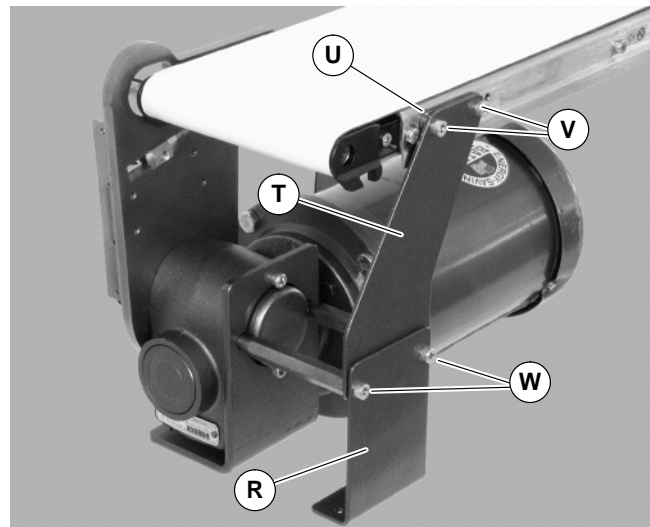

Figure 10
- 7b. Install spacer (U of Figure 10) and support plate (T) with screws (V). Install support bracket (R) with screws (W). Tighten screws (V & W) to 80 in-lb (9 Nm). Proceed to step 8.